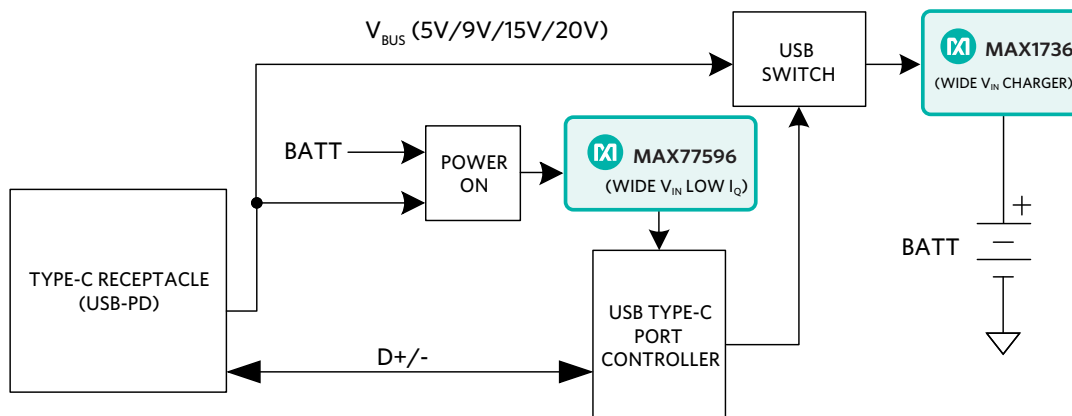

Figure 34. MAX77596 Wide V_{IN} Buck Converter for USB Type-C Port Controller
Prevailing USB Type-C technology provides greater power transfer by increasing USB voltage from 5V to either 9V, 15V, or 20V. Mobile devices employ USB port controllers to negotiate battery-charging conditions. Moreover, the port controller power supply requires a wide input voltage range to support USB Power Delivery 3.0 (PD) specifications. The **MAX77596** (Figure 34) regulates output voltage from the default 5V USB voltage or up to 24V to meet all PD 3.0 voltage range specifications. In addition, the port controller is always-on to monitor when a device is plugged in. This requires a low I_Q to reduce power consumption and extend battery life. The MAX77596 provides a $1.1\mu A$ quiescent current to continuously power the port controller without excessive battery drain. The features of the MAX77596 make it an ideal power supply for USB port controllers.